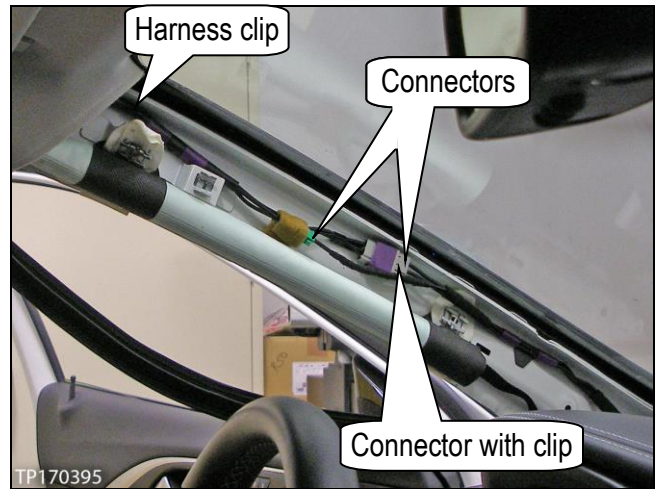

Figure 14
11. Disconnect the two (2) electrical connectors and 2 clips behind the front pillar garnish LH.
- One clip fastens the harness, the other holds one of the connectors (see Figure 14).